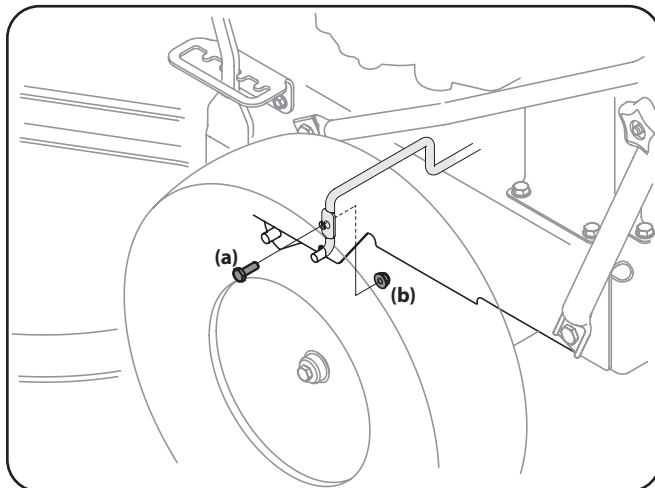

Figure 7-2
5. Remove the screw (a) and flange nut (b) which secures the belt keeper rod to the left side of the mower's frame. See Figure 7-2.
3. Remove the belt keeper as instructed in Step 6 of Cutting Deck Removal on page 20. See Figure 7-2